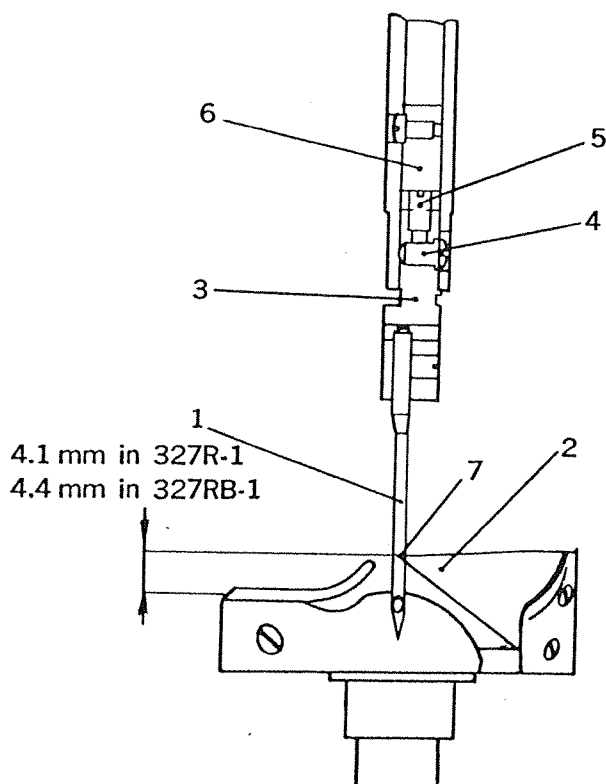

Fig. 29
- III. Turn hook only so that hook point comes to the needle as (7)—Fig. 29.
- IV. To correctly adjust the position of the needles (1) relative to hook points (2), remove the needle clamps (3) from their respective needle bars by removing needle clamp set screw (4). Upon removing the needle clamps, needle clamp adjusting screw (5) become accessible. Turn adjusting screw (5) either in or out to obtain the 4.4 mm (11/64") in 327RB-1 (4.1 mm (5/32") in 327R-1) distance between the eye of the needle when at its lowest position and the hook point (Fig. 29) after the needle clamps with needles have been replaced on the needle bars.